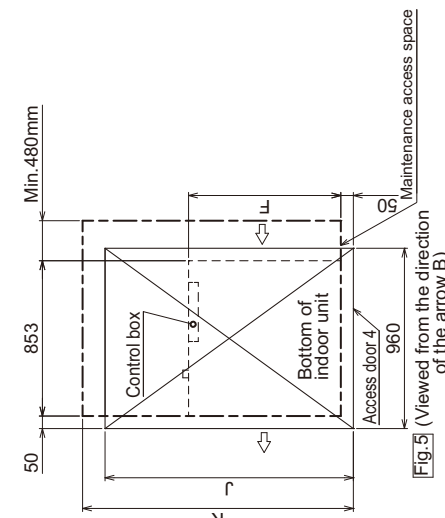

Fig.2 (Viewed from the direction of the arrow A)
• Create access door 1 and 2 (450x450mm each) as shown in Fig.2.
- Create access door 1 and 2 (450x450mm each) as shown in Fig.2.